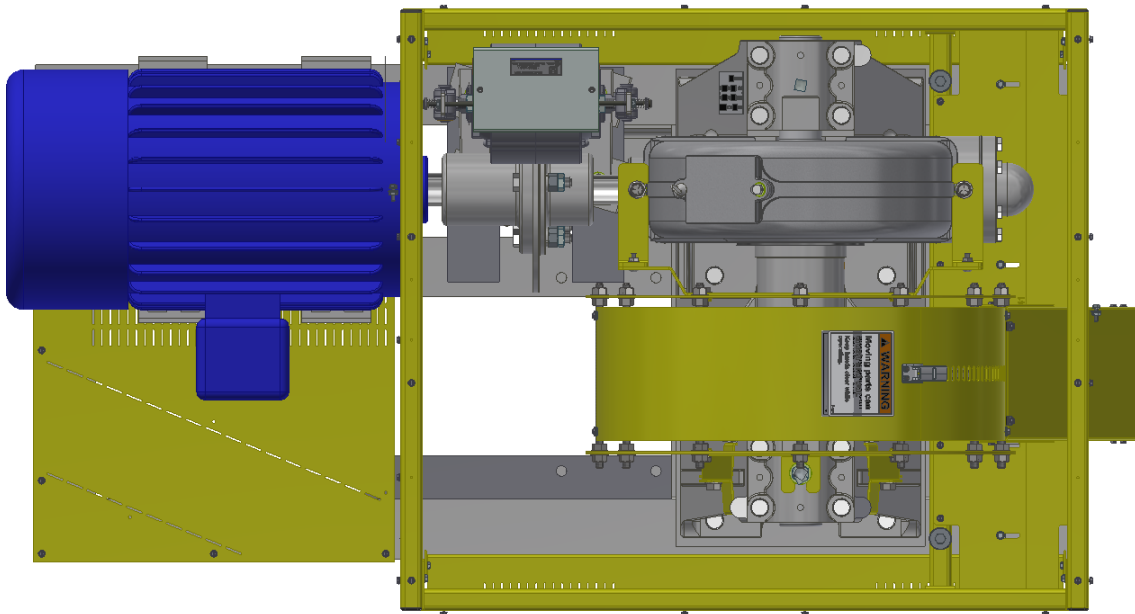
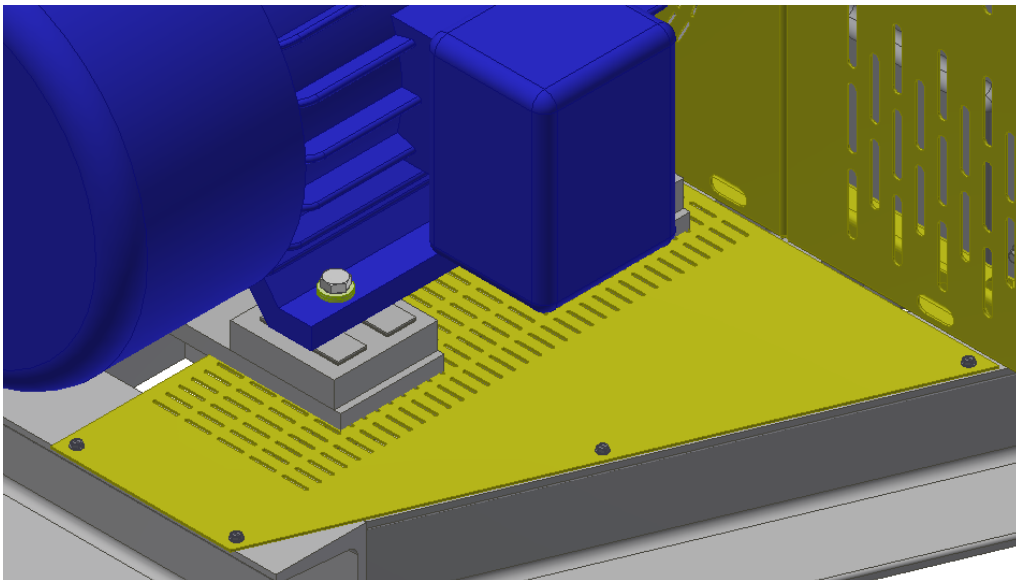

Figure 20: Machine Guard Motor Filler Panel Square Base Configuration
Figure 21: Machine Guard Motor Filler Panel Angled Base Configuration
- Place the Machine Guard Motor Filler Panel (p/n _ _-242) in the location to be installed and drill through the Overhead Traction Machine base with a 0.154 inch diameter drill where holes are present in the panel that are above the Overhead Traction Machine base members and secure with provided #10-24 screws. An assembled view of a square base configuration is shown below (Figure 20) and an assembled view of an angled base configuration is shown below (Figure 21).